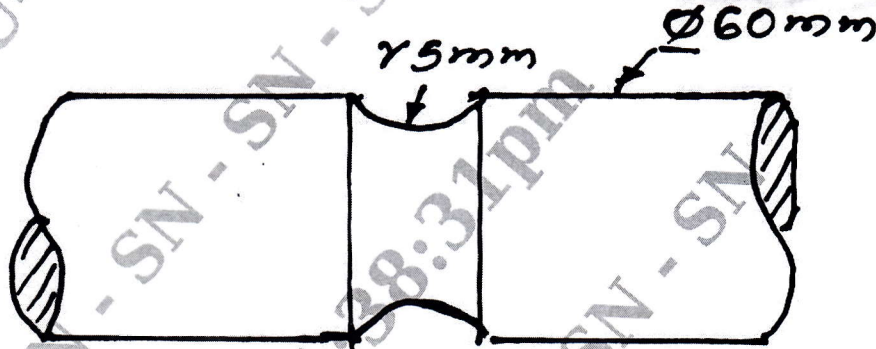

Fig. Q1 (b)
- b. Determine the max stress induced in the semicircular grooved shaft as shown in Fig. Q1 (b), if it is subjected to,